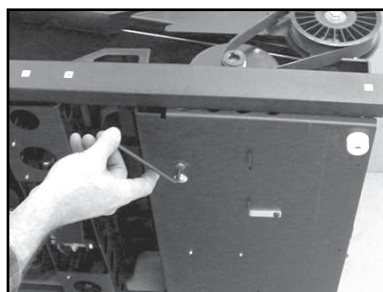

Figure 4-3
4-3 Using (1) 3/16" hex key completely remove motor shipping bolt from motor pan (see Figure 4-3) and retain the bolt after removing.